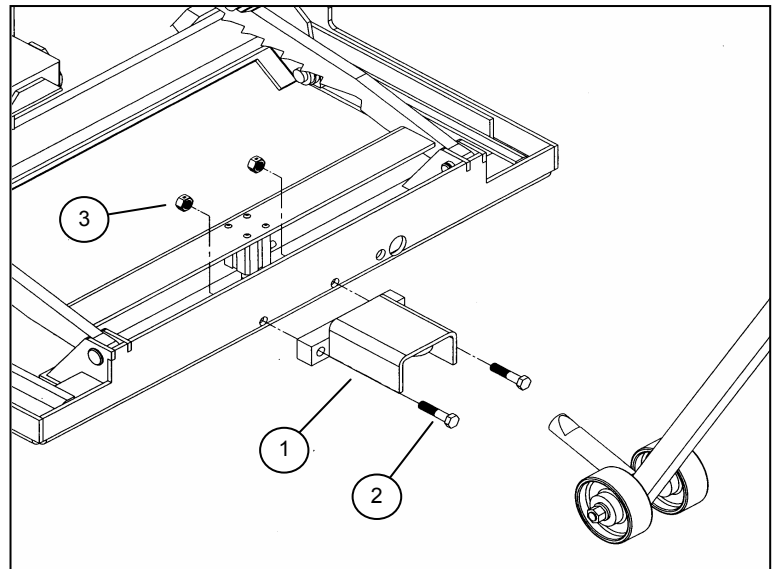

fig.4
Obtain hitch assembly and hardware (see fig.4):
Install the hitch assembly (10502) to the bottom lift pan using (2) Hex Bolt 7/16-14 x 2 (1002270) and (2) Nut Nylock 7/16-14 (1002271) (see fig.4).